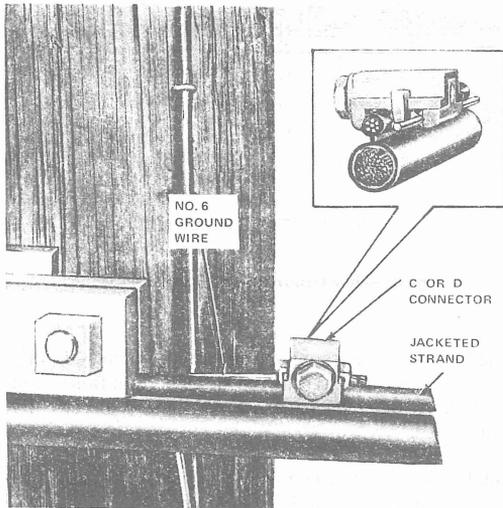

Fig. 4—Connecting to Jacketed Strand
1.11 The connection to jacketed (self-supporting cable) strand is made with C or D connectors as shown in Fig. 4.